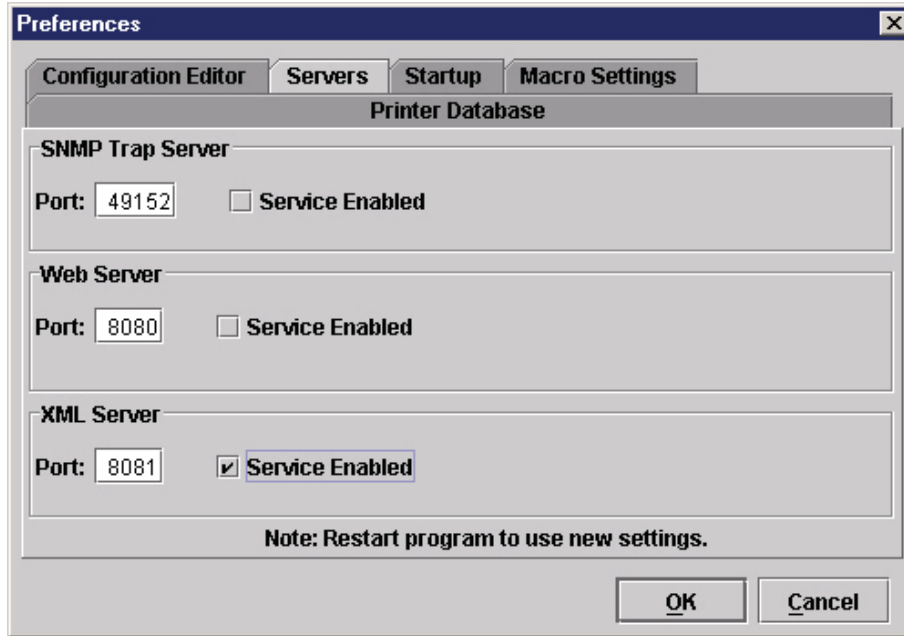

Figure 259 Enabling the XML Server Port
4. Make sure the **Service Enabled** check box is checked under **XML Server**. See Figure 259.